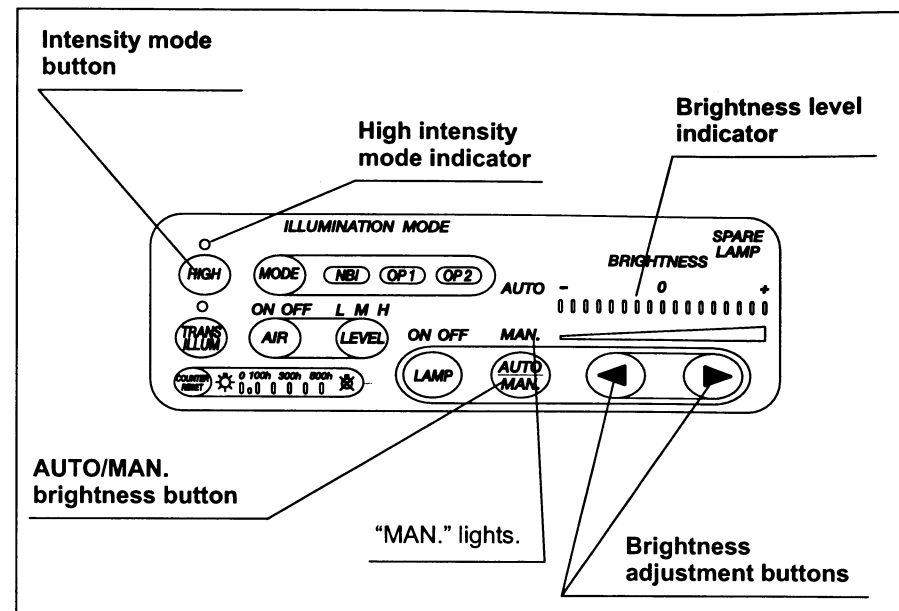

Figure 3.11
1. Press the AUTO/MAN. brightness button and confirm that the "MAN." indicator lights (see Figure 3.11).
4. Press the intensity mode button to change the normal mode to high intensity mode (see Figure 3.11).